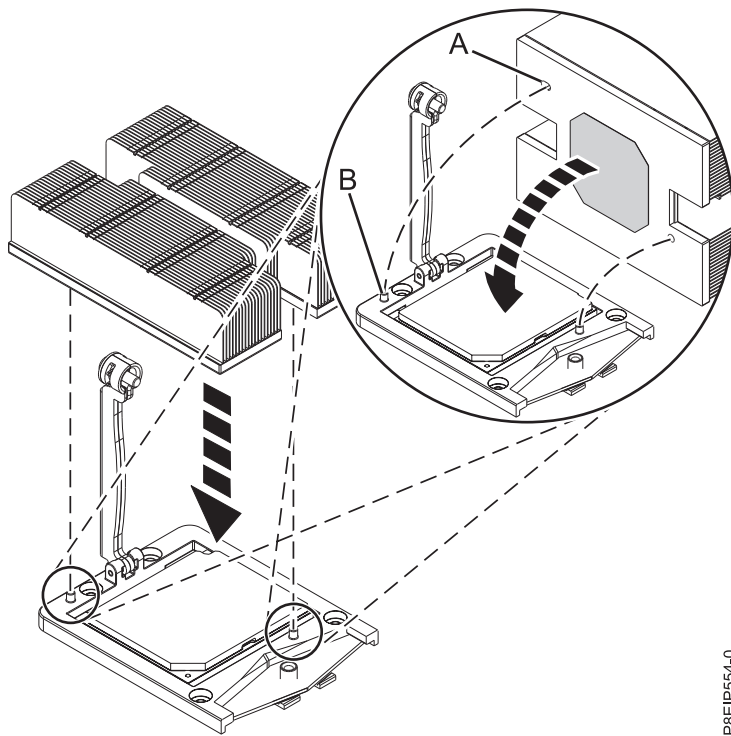

Figure 55. Installing the heat sink
10. Move the processor heat sink to the processor. If either the TIM or the heat sink is damaged, replace both the TIM and the heat sink. Carefully lower the heat sink over the system processor module, ensuring that the holes in the heat sink (A) align with the two guide pins (B) on the socket, as shown in Figure 55.